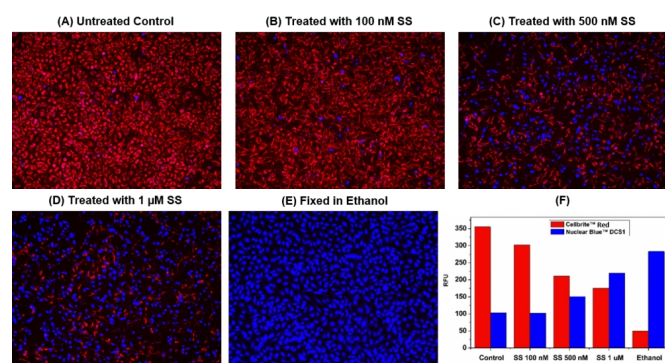

Figure 1.
1. Prepare cells according to the standard protocol. *Note:* We treated HeLa cells with staurosporine (SS) for 4 hours at 37°C to induce cell apoptosis. See Figure 1 for details.